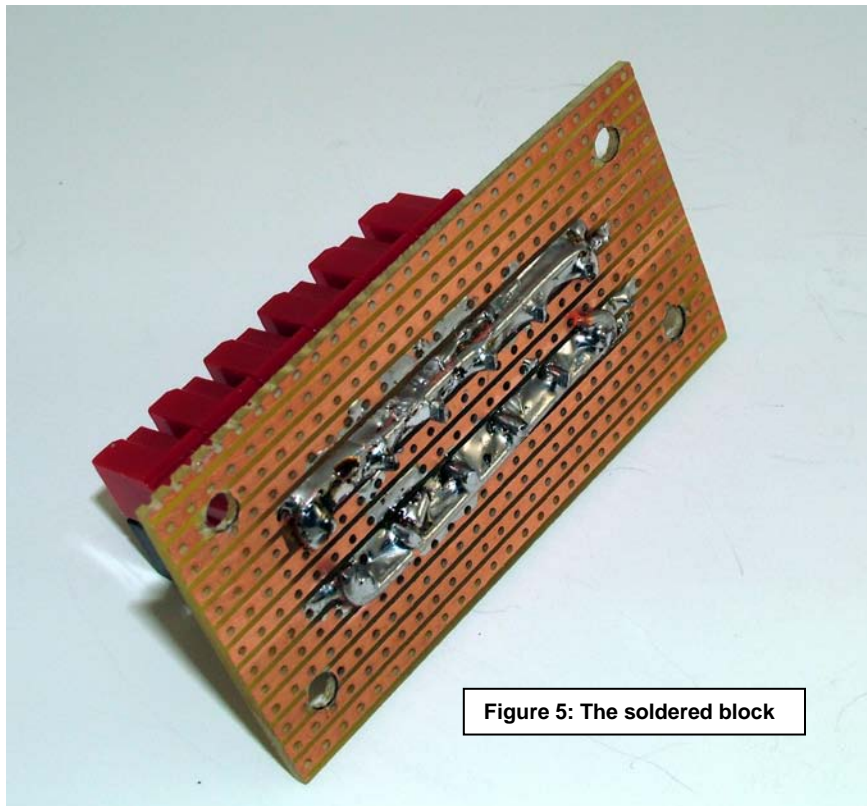

Figure 5: The soldered block
- 7.) Bend the projecting contact copper wires over each respective buss wire and clip off un-needed lengths. Solder securely ensuring good wetting. I used a 40 watt controlled temperature soldering iron with a 3/16" tip and rosin-core wire solder. See Fig 5.